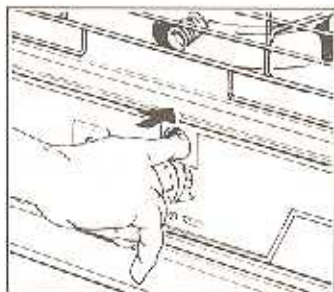

Fig. 8
(3) Push in ignition button and hold until wick is lit about 2 - 5 seconds (Fig.8).